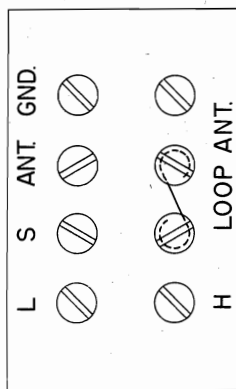

FIGURE 2
5. If the loop antenna trimmer is out of adjustment it should be set after the radio chassis is in the cabinet. Set the link on the antenna terminal board to the LOOP position as shown in Figure 2. Adjust the signal generator to 1400 kilocycles and connect its output to a loop containing approximately five turns of wire eight inches in diameter placed eighteen inches from the receiver loop and in the same plane.